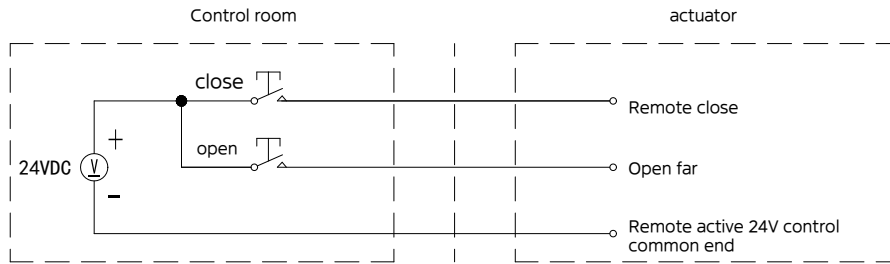
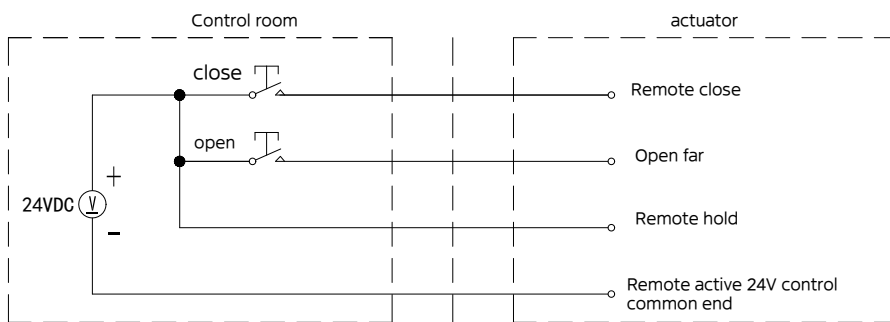
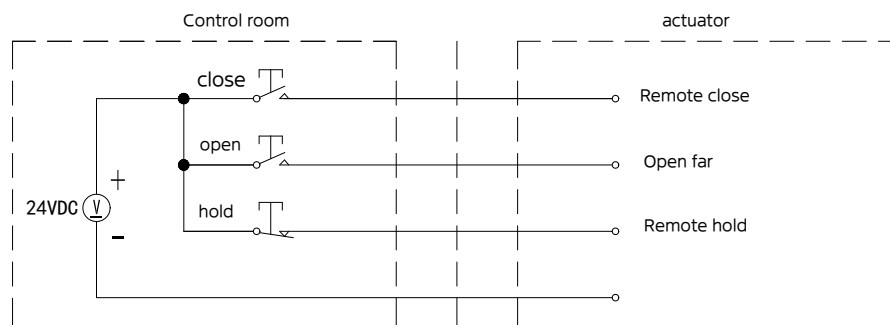

Figure 4: Point-action open and close control, the actuator can be stopped at any position in the middle (using external 24V power supply)
Figure 5 Hold open and close control, reversible stroke, but can not stop in the middle position (using external 24V power supply)
Figure 6 Hold open, close and stop control (using external 24V power supply)
7.1.2 External 24V DC voltage is used to achieve control, and the connection is shown in Figure 4, Figure 5, Figure 6.